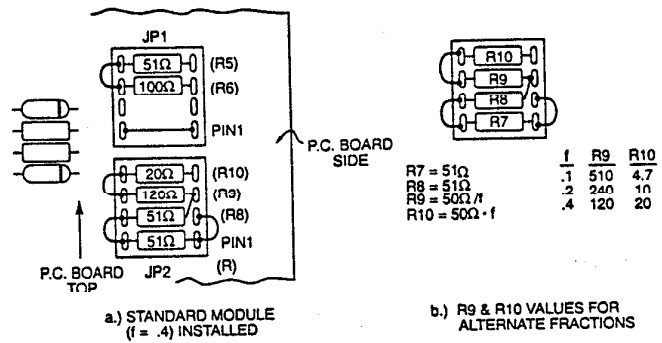

Figure 3.3
In timing experiments, one of the important variables to consider is the fraction of the input signal used to derive the constant fraction function. Most applications provide optimum timing with a fraction of 0.4. This fraction is provided by the 2126. However, the 2126 offers the user an easy means to change the fraction. The fraction module is located immediately below the attenuator module near the front of the 2126. The user can change the desired fraction in two ways. Figure 3.3 illustrates the fraction module and lists values for two resistors that can be changed by the user to implement different values for the fraction. Alternately, contact the factory regarding other values of fraction modules available on special order.
Both Constant Fraction (CF) and Constant Fraction with Slow Reject (SR) modes use the internal fraction module supplied with the 2126. To use either mode, verify that the fraction module is properly installed in its socket near the front of the 2126 circuit board. Figure 3.3 shows the proper installation of the fraction module. With the fraction module installed, the front panel Mode Switch allows selection of Constant Fraction (CF) mode or Constant Fraction with Slow Reject (SR).